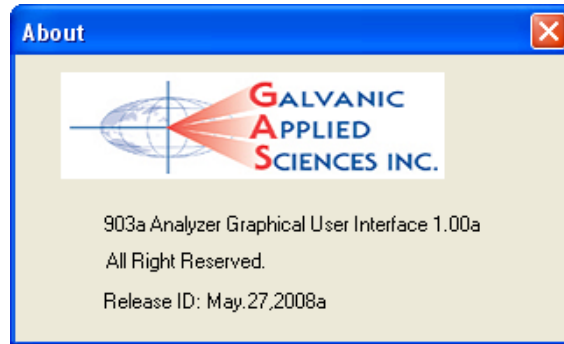

Figure 5-6: About Dialog Box
- *About* - presents the *About* dialog box (Figure 5-6) which shows the version number of the GUI currently in use. Please provide the version number if you contact Galvanic Applied Sciences for assistance.